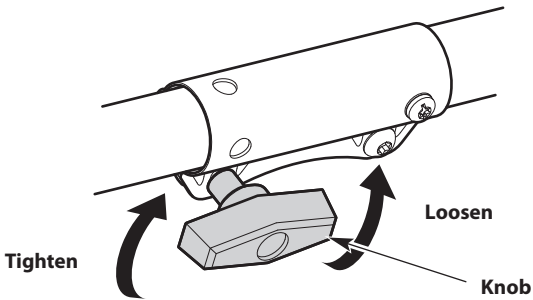

Fig. 5
3. Turn the knob counterclockwise to loosen the coupler (Fig. 5).
- 6. Turn the knob clockwise to tighten the coupler (Fig. 5).
- 2. Turn the knob counterclockwise to loosen the coupler (Fig. 5).